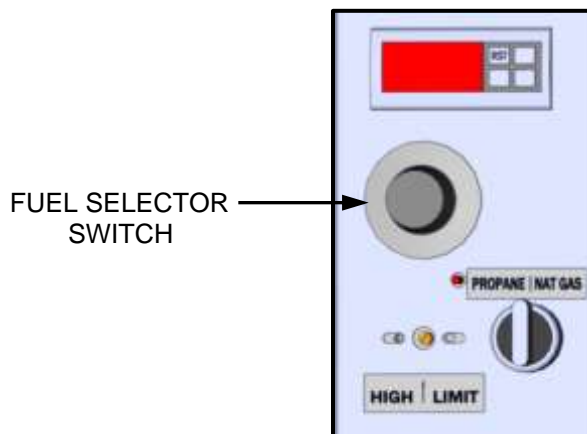

Figure 4-10: Dual Fuel Switch
4. Locate the Fuel Selector Switch (see Figure 4-10), behind the front door.